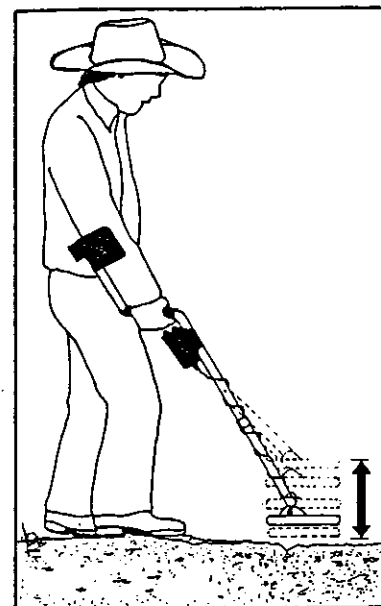

Figure 4. Automatic Ground Balancing (AGB) procedure
5. To rapidly Ground Balance, hold the RESET switch in the "Up" position while continually raising and lowering the coil between 3 and 10 cm above the ground (Fig.4), or higher on exceptionally hot ground. Initially, you will hear a signal each time the coil moves in a particular direction. After a few moments, the sound will diminish with each movement until it almost vanishes. You have just **Automatically Ground Balanced** the detector to reject ground noises at that spot. Release the RESET switch. If step 5 is not carried out, the FT16000 will still automatically ground balance with use, after a few seconds.